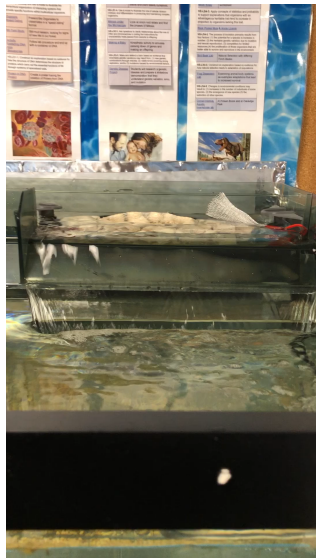

Fig.7
- Plug filter into electrical outlet and make sure water is moving through it [Fig.7 - video]